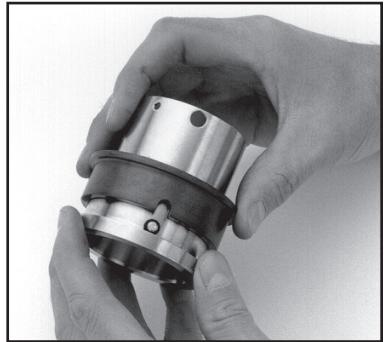

Figure 12
4.3.3 **Install the rotor** onto the sleeve aligning the drive slot with the pin. See Figure 12.